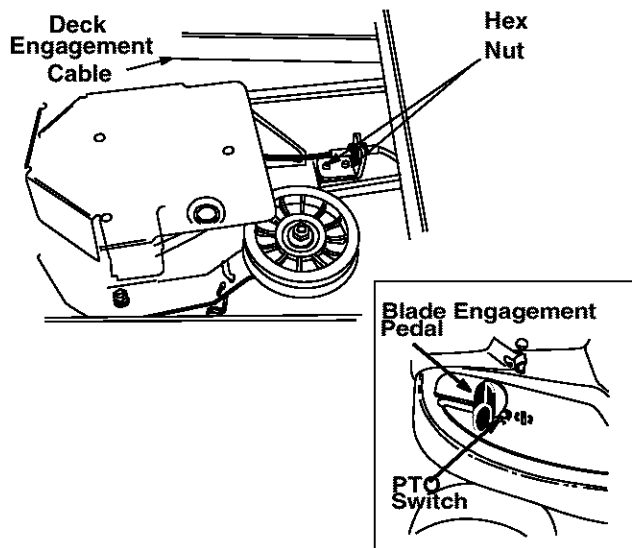

Figure 13
Adjustment to the blade brake will have to be made at the cable end. See Figure 13.
1. If the belt is slipping when you depress the blade engagement pedal about 3/4", loosen the two hex nuts on the cable. See Figure 13.
2. If the belt is engaging sooner than when the blade engagement pedal is 3/4" from the PTO switch, tighten both hex nuts on the cable. See Figure 13.